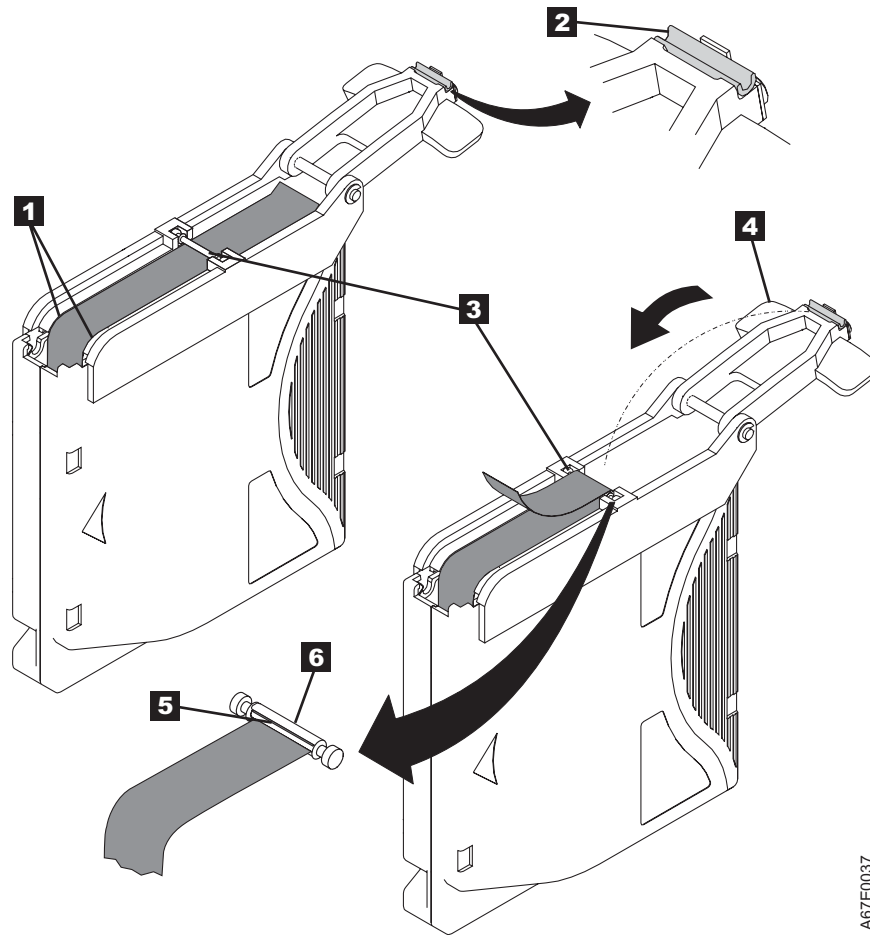

Figure A-11. Attaching the leader pin to the tape
7. Position the tape in the alignment groove of the leader pin attach tool (see **1** in Figure A-11).
8. Place a new C-clip into the retention groove **2** (Figure A-11) on the leader pin attachment tool and make sure that the clip's open side faces up.
9. Place the leader pin (from step 6 on page A-32) into the cavity **3** (Figure A-11) of the leader pin attach tool.
10. Fold the tape over the leader pin and hold it with your fingers (see Figure A-11).